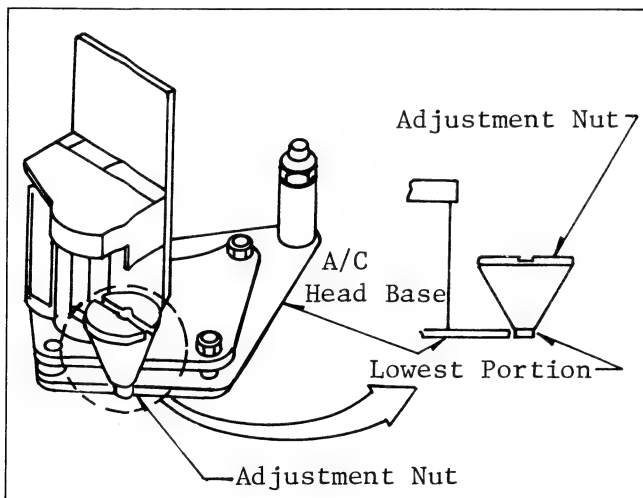

Fig. M44 Horizontal Position Adjustment of A/C Head-(1)
2. Insert an H-position Adjustment screwdriver into the Adjustment Nut and loosen the Nut until A/C Head Base touches the Nut at the lowest portion of slope of the Nut as show in Fig. M44.